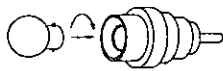

Fig. 2
Mount the bulb in the bulbholder by pushing and twisting 1/4 turn clockwise. (Fig. 2)
- Insert bulb, as in Fig. 2